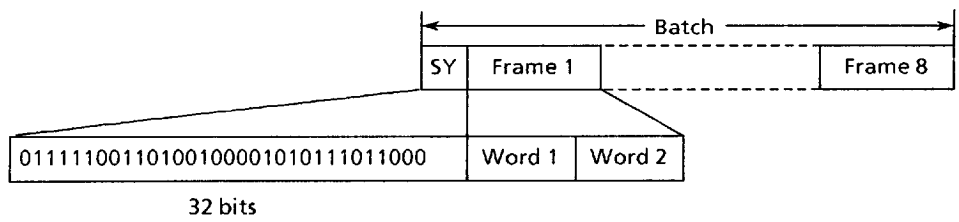

Figure 7 Batch configuration
Synchronization codeword (SY): 32-bit signal shown in Figure 7. When the SY is received after a preamble, it is considered a POCSAG code.
The operation which detects the initial SY following a preamble is called the initial SY detection mode. The S-7038AF compares the sent data with the SY data set in the S-7038AF (see Figure 7). After receiving one bit of data, the S-7038AF compares the 32-bit data, including that bit and those before it, with the SY. If 30 or more bits match, the SY is considered to be detected. Even if radio wave are affected by noise, SY is detected as long as there are no more than two faulty bits.